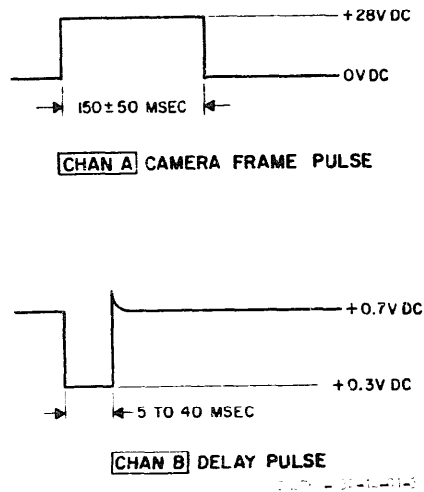

Figure 3-10. Camera frame pulse and delay pulse waveforms.
m. Set LOGIC TEST switch to DELAY. Observe waveforms shown in figure 3-10.